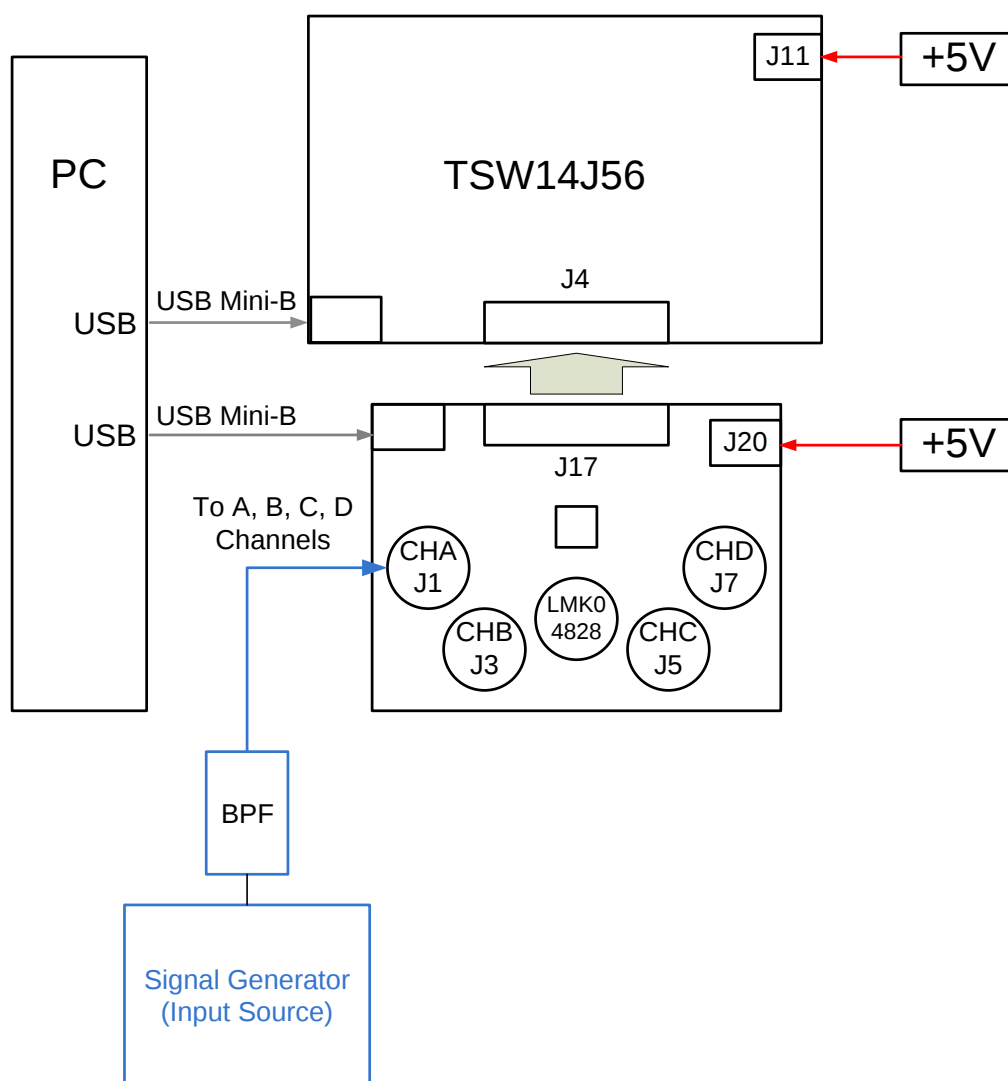

Figure 16. ADC32Jxx/ADC34Jxx and TSW14J56 Test Setup Block Diagram
The test set-up for evaluation of the ADC32J/34Jxx EVM with the TSW14J56 or TSW14J50 Capture Card is shown in Figure 16. As seen in this figure, the evaluation setup involves a clock from a high quality on board clock chip LMK04828 and a sine wave for the analog input from a high-quality signal generator. High order, narrow bandpass filters are usually required to remove phase noise and harmonic content from the input sine waves. Since the on board clock and input sinewave are not coherent then the resulting FFT will need to have a windowing function such as Blackman-Harris/Hamming/Hanning applied to the data.
- Enter the ADC32J/34Jxx sampling rate. The example shown in Figure 16 has the sample rate set at 160 Msps
- Enter the input frequency desired. The example shown in Figure 16 has the filtered input frequency set at 10 MHz and around 10 dBm – adjust to achieve –1 dBFs on the HSDC Pro FFT plot
- Observe an FFT result similar to that of Figure 16